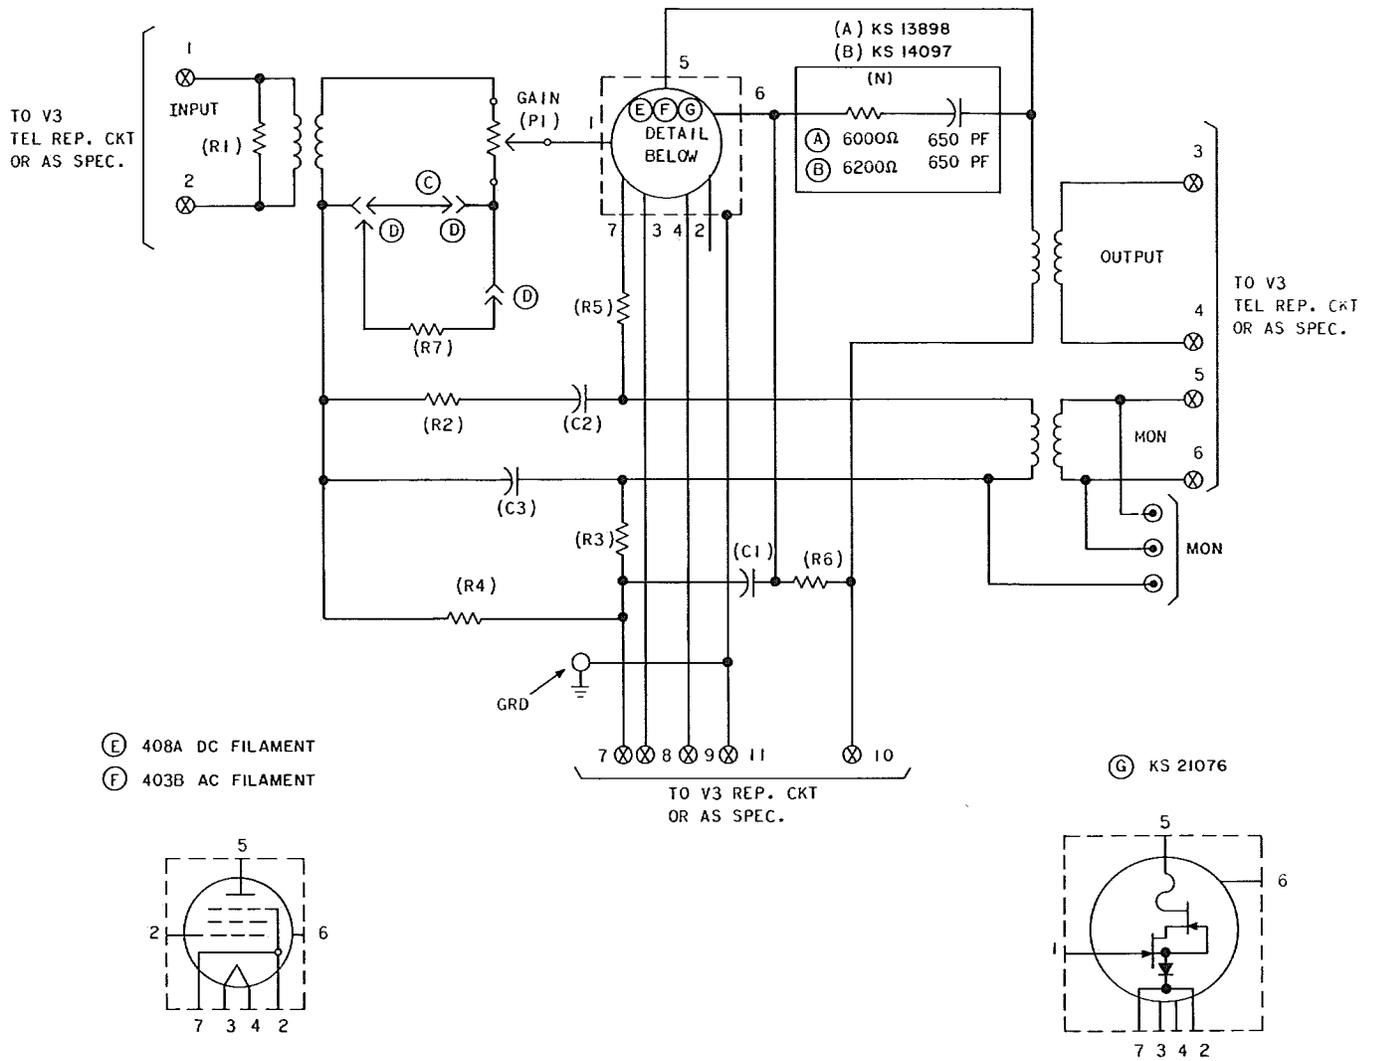

Fig. 1—V3 Amplifier Schematic
2.01 Fig. 1 is a schematic of one amplifier of the V3 repeater. It is a single stage amplifier with the usual input and output transformers, gain control, and feedback path. It can be either a tube or HIN-equipped amplifier. The KS-21076 HIN is a metal enclosed network consisting of a field effect transistor (FET) with internal fusing and an internal protection diode. The network is a solid state replacement for the conventional glass 408A or 403B pentode electron tube in the V3 repeater amplifier. It is recommended that no intermixing of the tube, solid state, and HIN amplifiers be allowed on the heater circuitry associated with any specific fuse panel. With this restriction, no heater voltage is required, thus precluding the need for voltage adjustments.